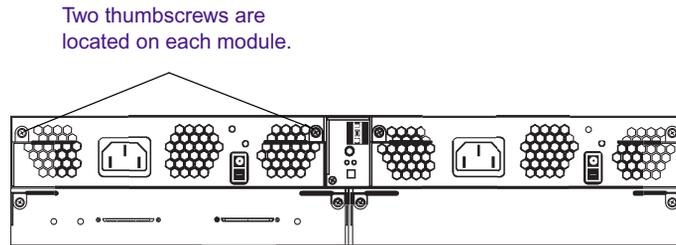

Figure 8 Connecting the Grounding Wrist Strap
3. Attach the grounding clip to any one of the metal thumbscrews on the rear of the MediaDock Ultra320 chassis (see Figure 8).